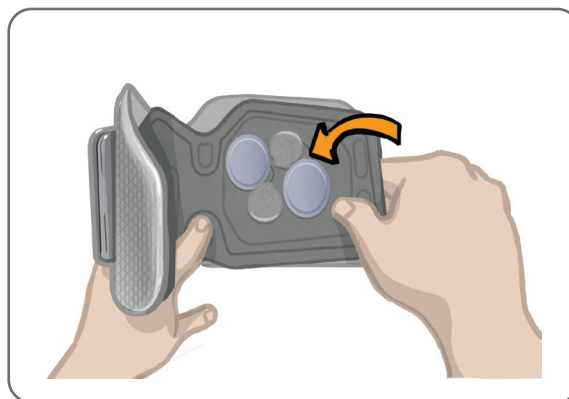

Figure 6-5: Personal Panel Being Removed
1. Remove the Personal Panel from the Lower Leg Cuff. See Figure 6-5.